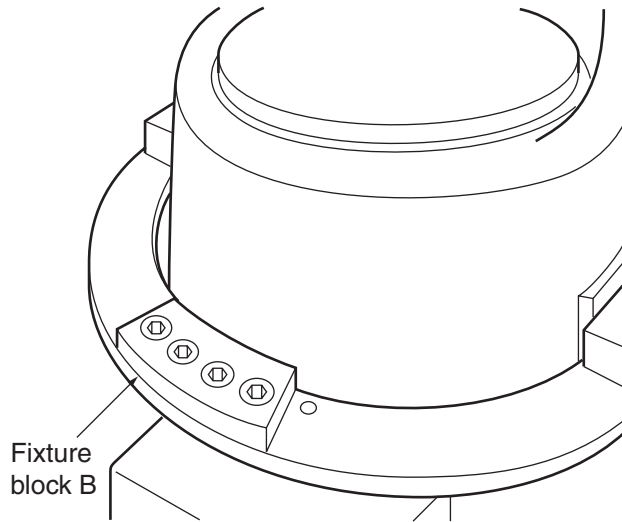

Figure 1-11. Fixture Block B Joining Assemblies 1 and 2
6. Attach Fixture block B to assemblies 1 and 2 to join them together. Use M8 x 16 hex, socket-head bolts. Tighten to a torque of 36 ± 7.2 Nm. See Figure 1-11.